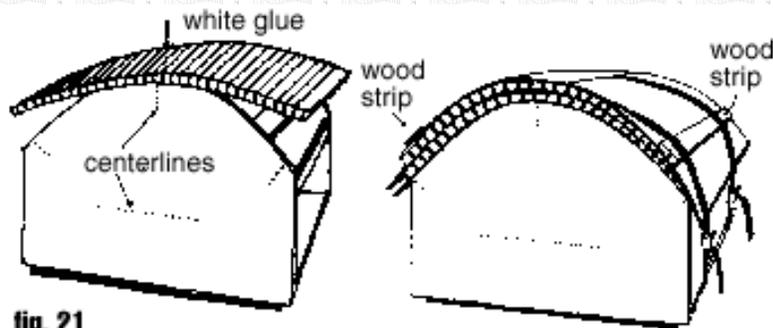

fig. 21
2. Position Kerfkore/laminate assembly on form, making sure Kerfs are parallel to centerline, (Fig. 21) mark door edges, shifting as needed to make sure hinge attachment holes fall as close to the center of a rib as possible.